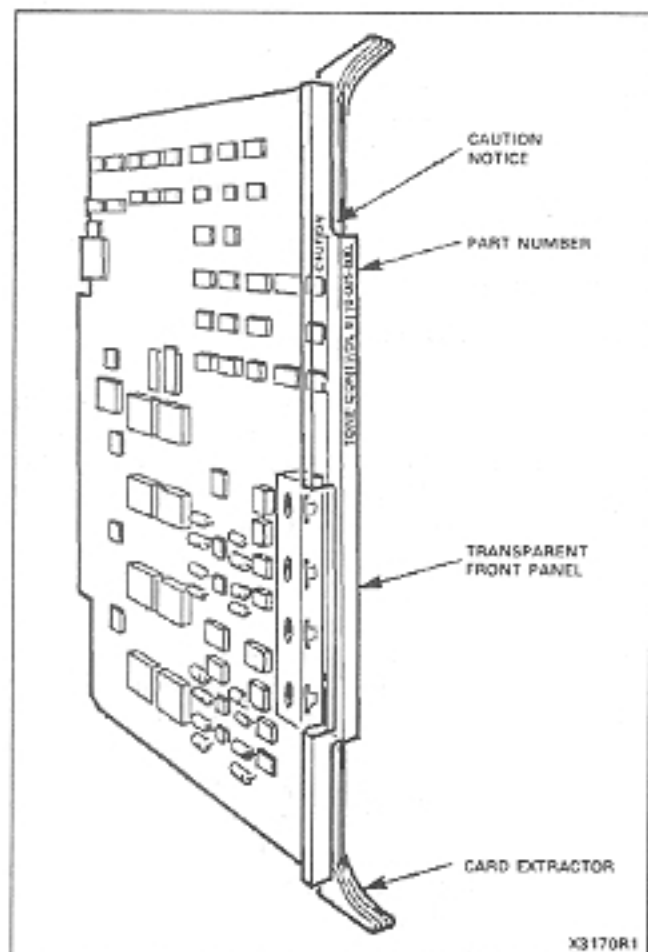

Fig. 2-4 Typical Circuit Card
2.13 The circuit cards (Fig. 2-4) used in the equipment shelves measure 10 in. (254 mm) high, 13 in. (330 mm) deep, and are manufactured from fiberglass board. The light-emitting diodes (LED's) mounted at the front of each card indicate the operational status of the card. The transparent front panel protects the LED's while allowing their status to be observed.
2.14 On the front panel of each card, is the card part number and its type. Cards which must not be removed or inserted while the system power is on carry a Caution notice as shown in Fig. 2-4.